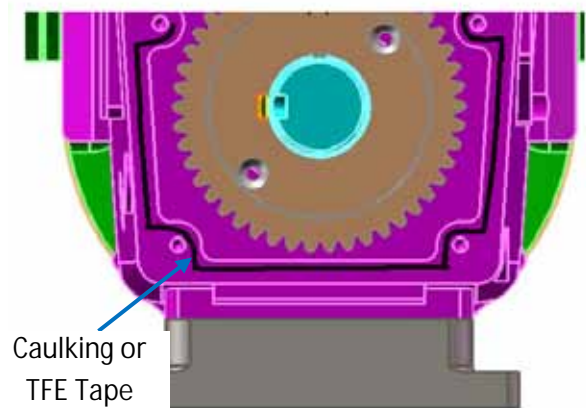

Figure 66 – Caulking Back of Gearbox
3. Apply silicone sealant to the back of the gearbox. (TFE sealing tape can be used on silicone-free models.) Place tape on the inside of the screw holes, Figure 66.